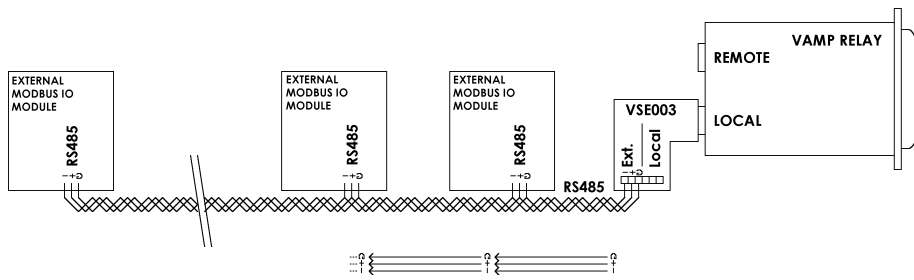

Figure 2. The connection.
2. Make the necessary connections according to the figure 2.